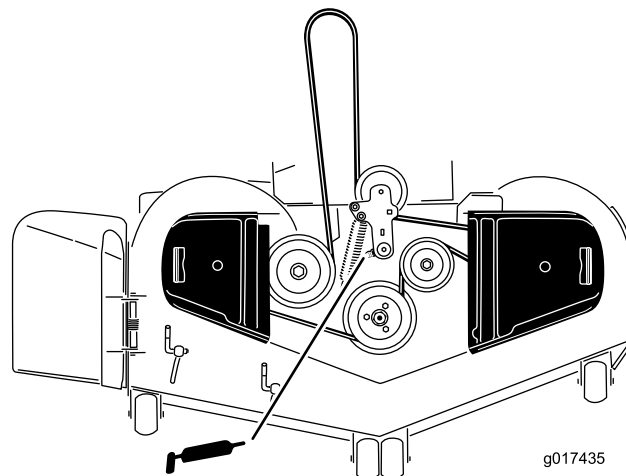

Figure 33
3. Grease the mower deck idler-pulley pivot until grease comes out of the bottom (Figure 33).